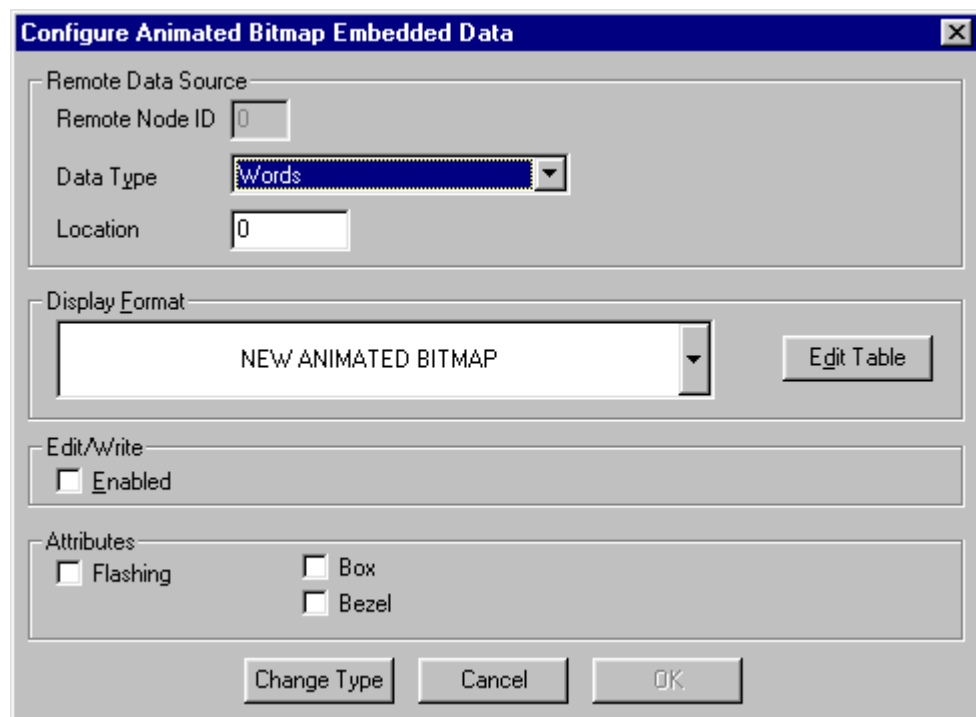

Figure 13.6 – Embedded Animated Bitmap Selector
4. The normal Animated Bitmap Selector data type window will appear (Fig 13.6).